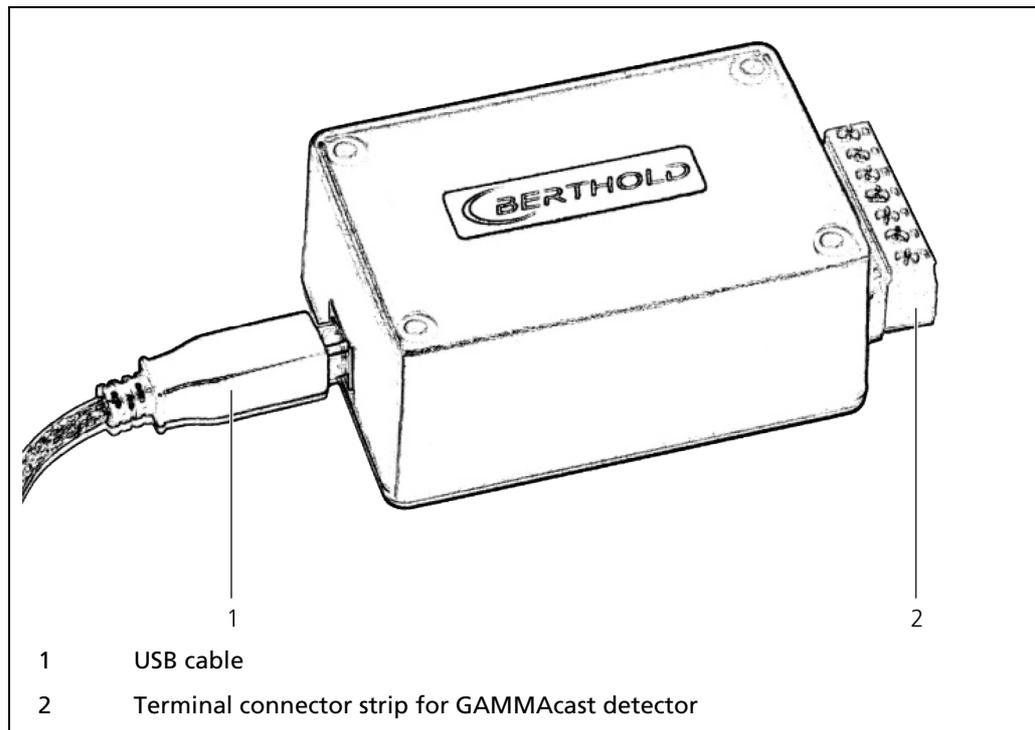

Fig. 8 Detector service modem
1. Connect the GAMMAcast detector to the terminal strip of the "detector service modem" (Fig. 8, pos. 2).
2. Connect the "detector service modem" via the supplied USB cable (Fig. 8, pos. 1) to a free USB port on your PC.